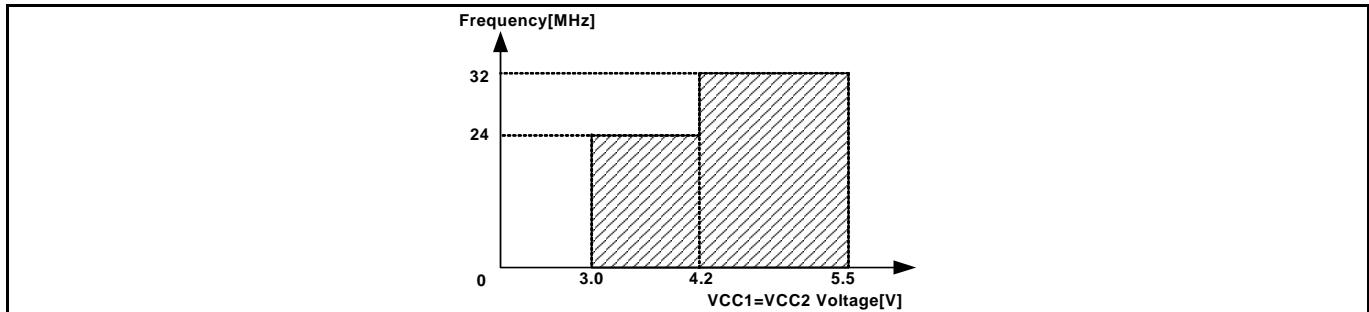

Figure 1.4 Single-power supply (VCC1=VCC2) and disconnecting to the emulation memory board (R0E330850MSRC0)
*2: The relationship between the voltage and the maximum operating frequency of this product is shown in Figures 1.4 to 1.7. These precautions only need to be observed when using an emulator, and does not apply for the actual MCU.